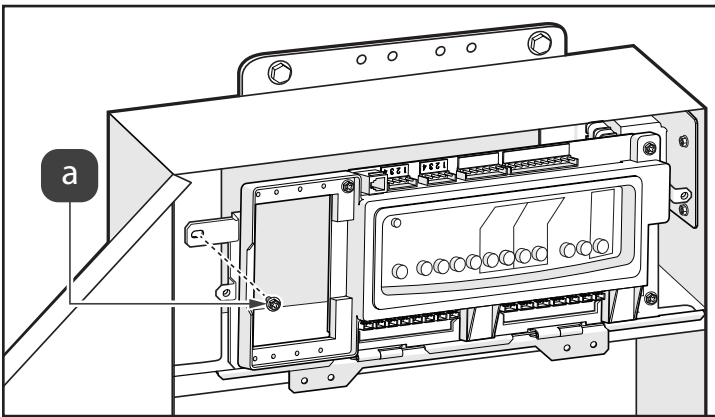

Figure 16 AquaLink RS Conversion Kit Mounting
1. Install retaining screw on top left of AquaLink RS Conversion Kit chassis, see Figure 16(a).